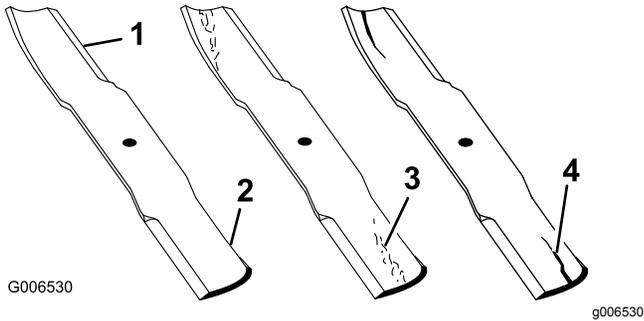

Figure 52
1. Inspect the cutting edges (Figure 52). If the edges are not sharp or have nicks, remove and sharpen the blades. Refer to Sharpening the Blades (page 41).
2. Inspect the blades, especially the curved area (Figure 52). If you notice any damage, wear, or a slot forming in this area (item 3. in Figure 52), immediately install a new blade.